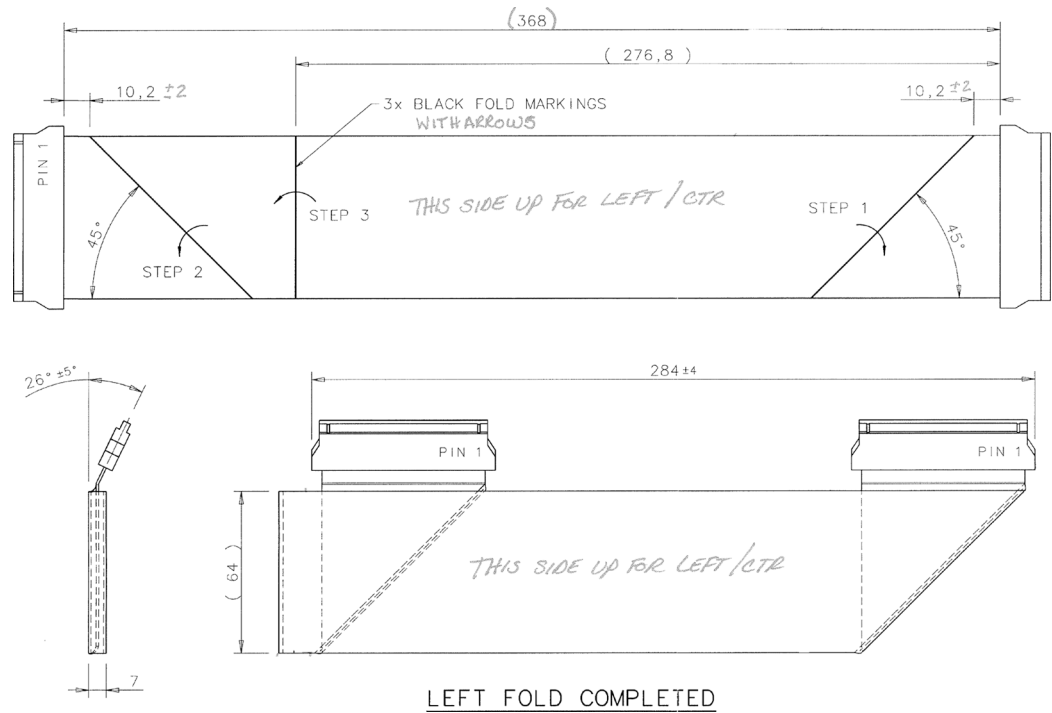
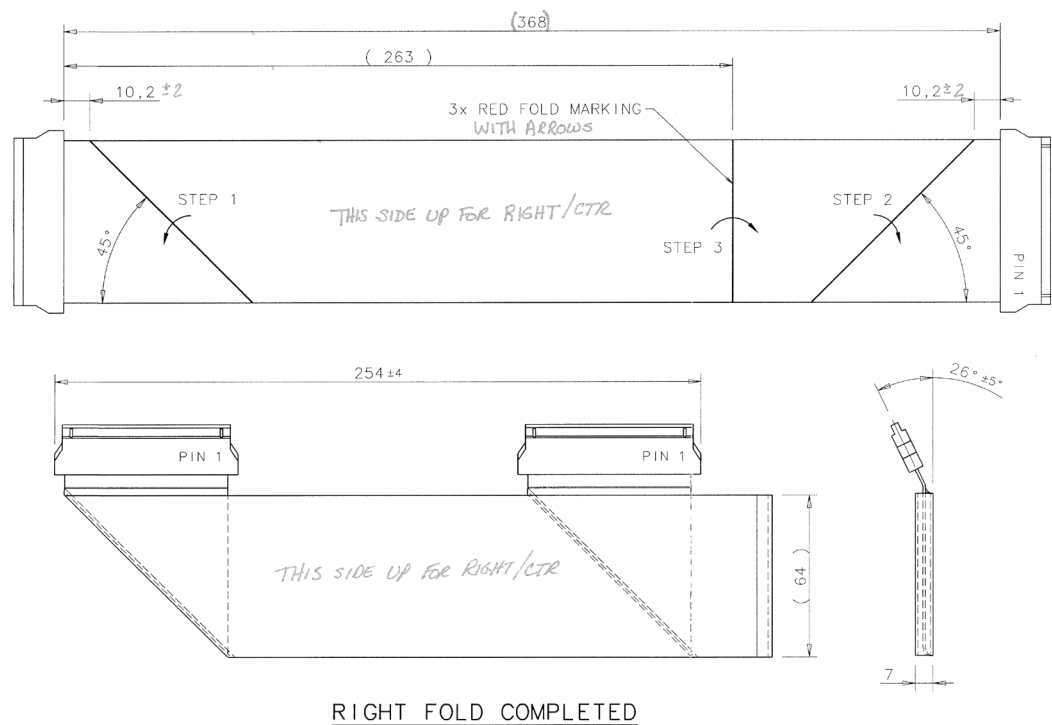

Figure 2 - Left Chassis Fold
Figure 3 - Right Chassis Fold
- 2.) Secure by using four (4) large 12mm Cap screws, with flat and lock washers. Torque each chassis mounting screw to 66.4 N-m (48.9 lbs-ft).
- Fold each cable, one for the left/ctr and for the right/ctr chassis assemblies. See Figure 2 and Figure 3 for folding details.